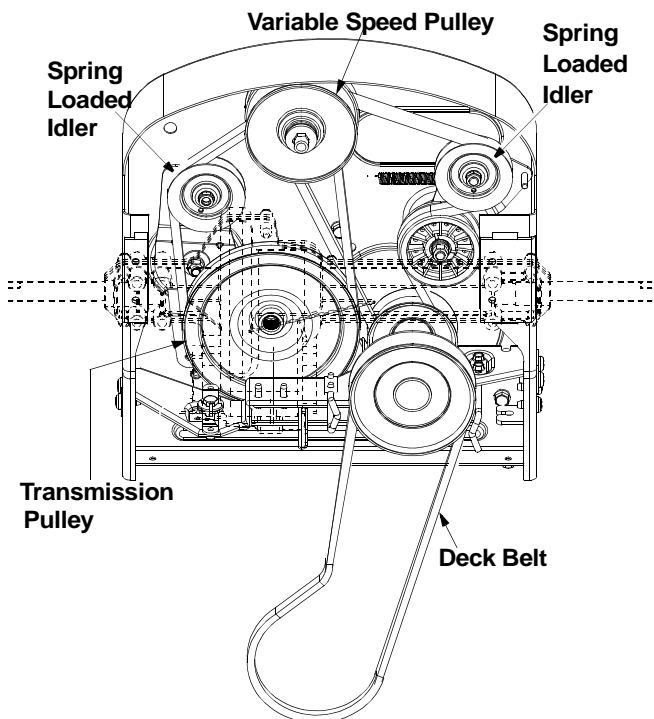

Figure 16
- Push the spring loaded idler, located on the left side of the transmission, to the right. Remove belt from around the idler and then the transmission pulley. See Figure 16 .
- Using a 9/16" socket, remove bolt, spacer and the flat washer from the variable speed pulley. See Figure 16 .
- Push the idler bracket to the right and remove the belt. See Figure 16 .